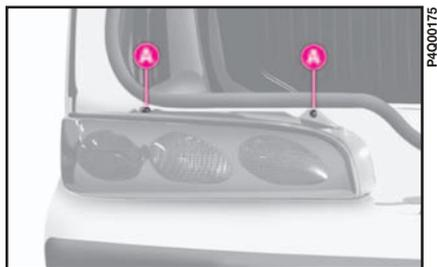

fig. 25
1) loosen the two screws **A-fig. 25** from the respective housings and tip the lens;